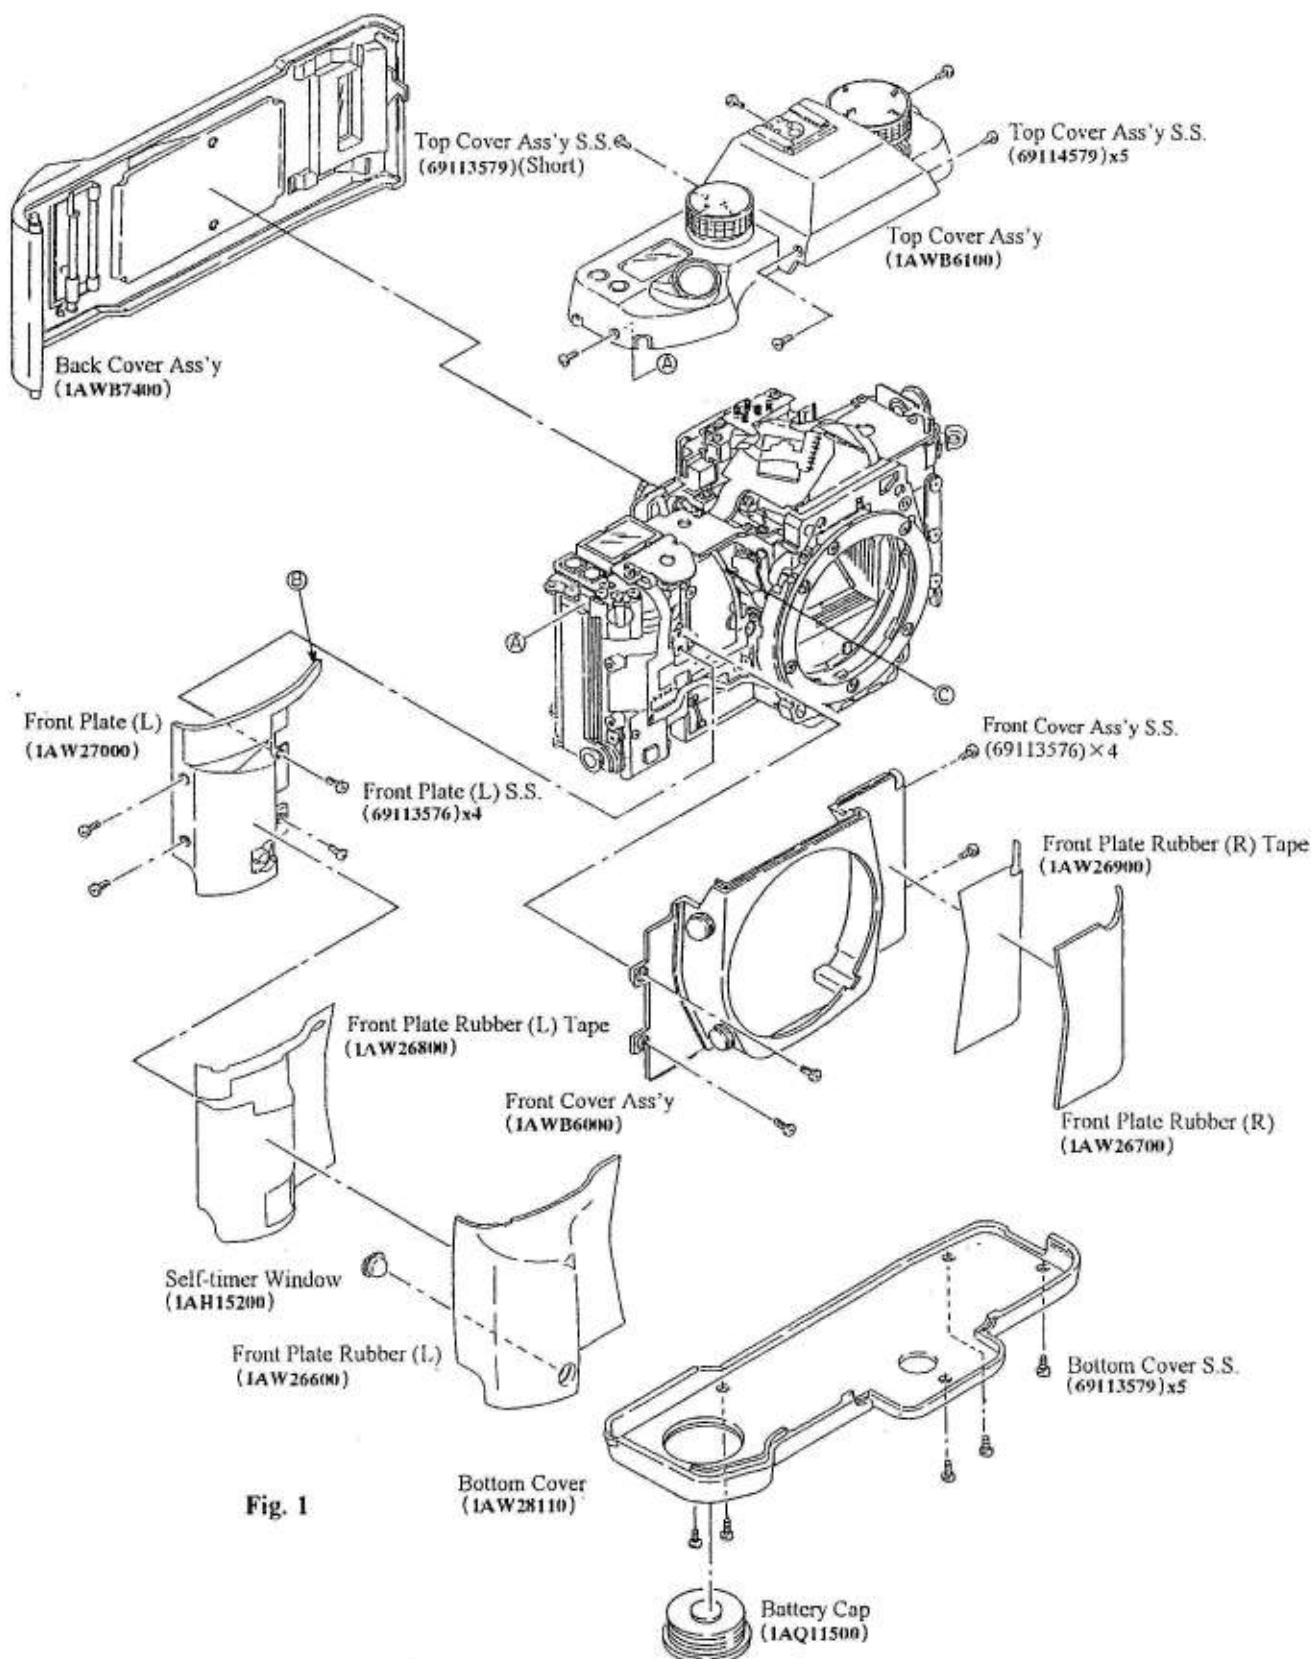

Fig. 1
(See Fig. 1)
- b) Install the Front Plate (L) Ass'y so that the ② portion of the Front Plate (L) Ass'y presses the ③ portion of the Aperture Control FPC. (See Fig. 1).